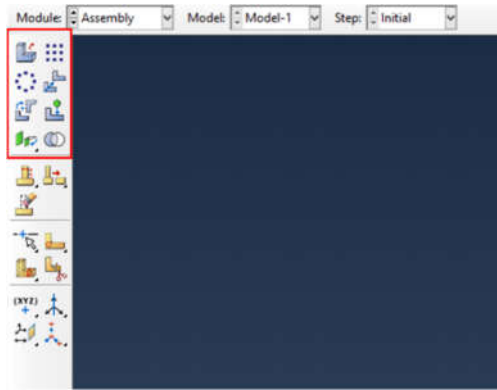

Figure 3-9: Tools in Assembly may help in generating periodic mesh
- 2) For symmetrical SGs, the user can first create 1/4 of the geometry for 2D SG, or 1/8 SG for 3D SG, then use the tools in Assembly module (Patten, Rotate, Merge (mesh)) to create new part (Figure 3-9).